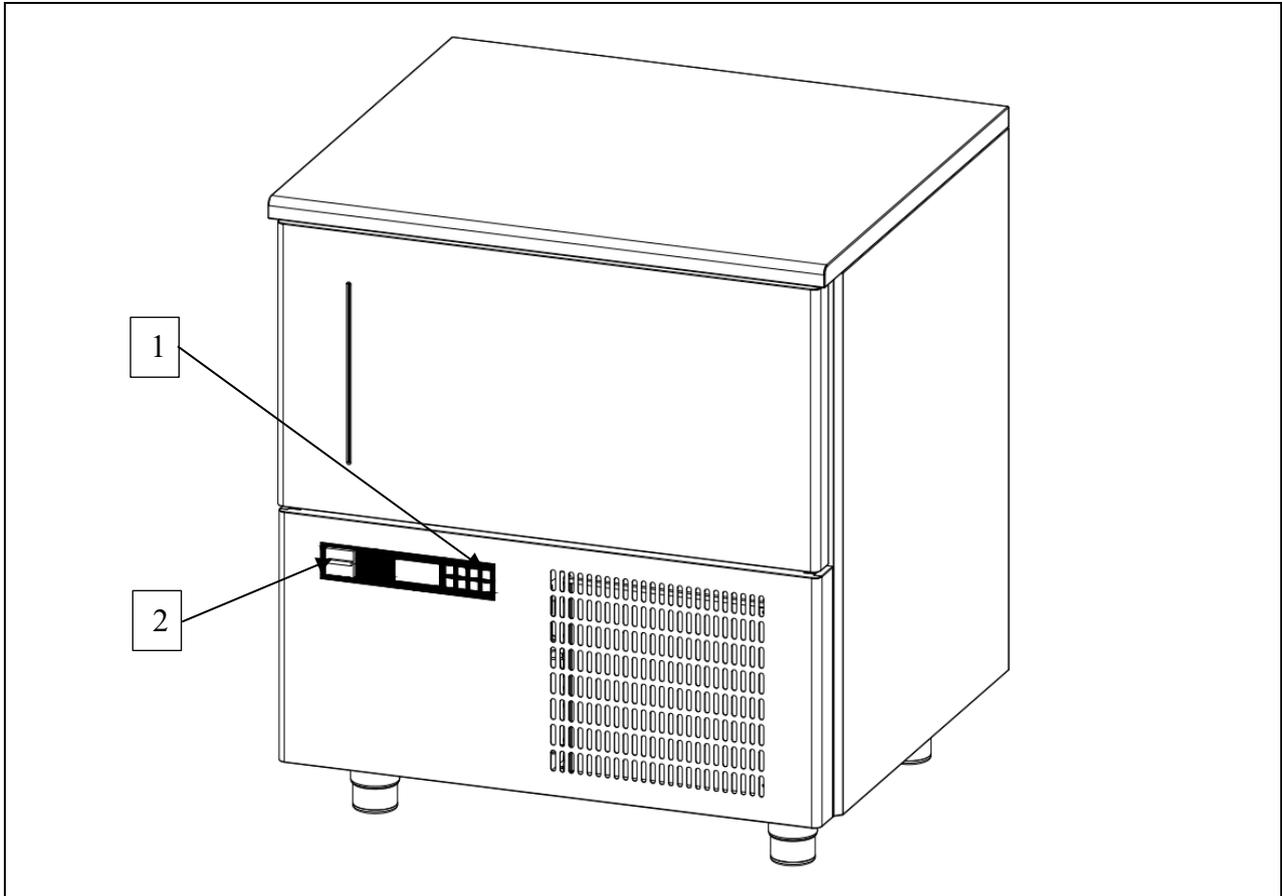

Fig. 3
The entire appliance is controlled by an electronic circuit board. The stop function is represented by the  button (ref. 1 fig. 3). Whatever condition the machine is in, holding down the  button for 3 seconds sets in standby the machine. Whatever condition the machine is in, switching off the main switch (ref. 2 fig. 3) cuts out the circuit board.